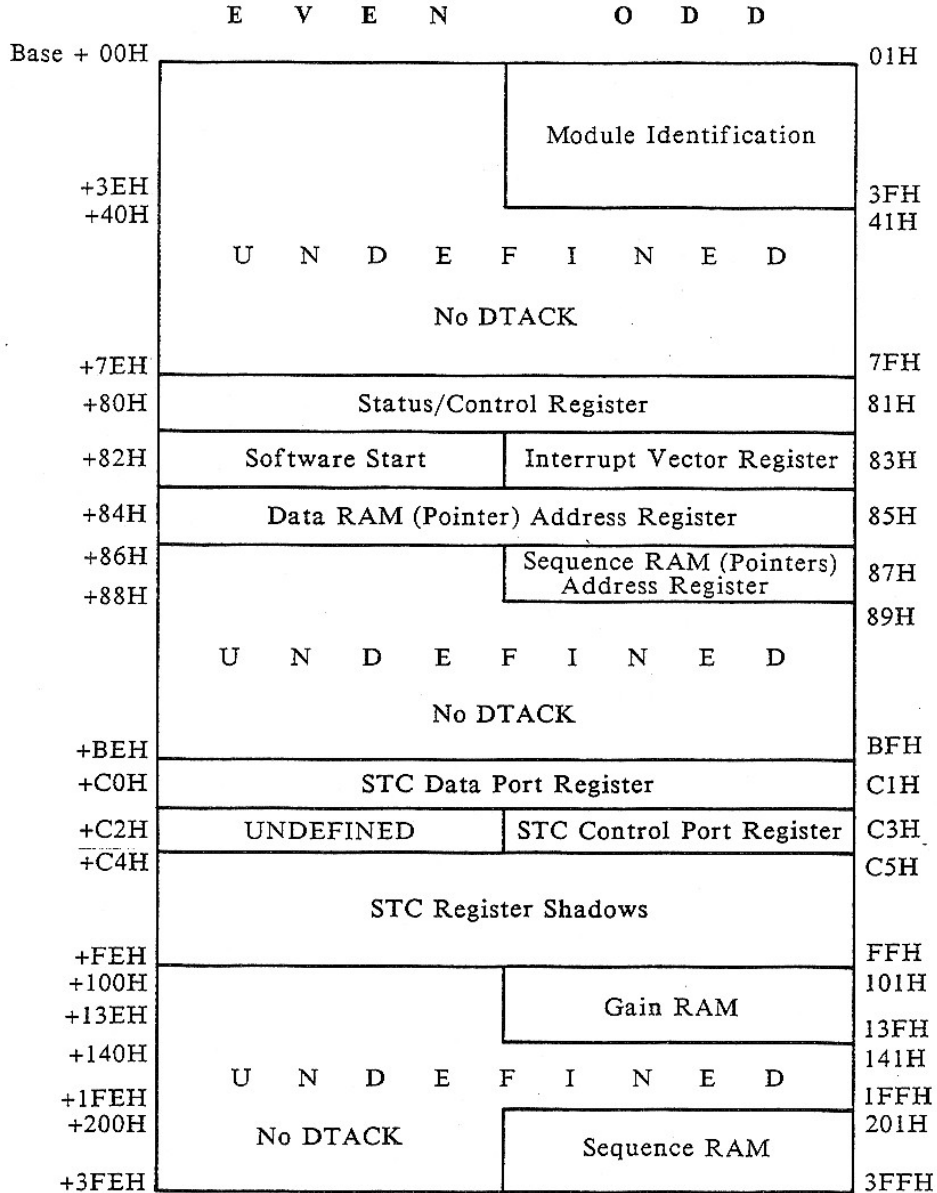

Figure 4-1
- XVME-566 I/O Interface Block (Memory map; Figure 4-1)